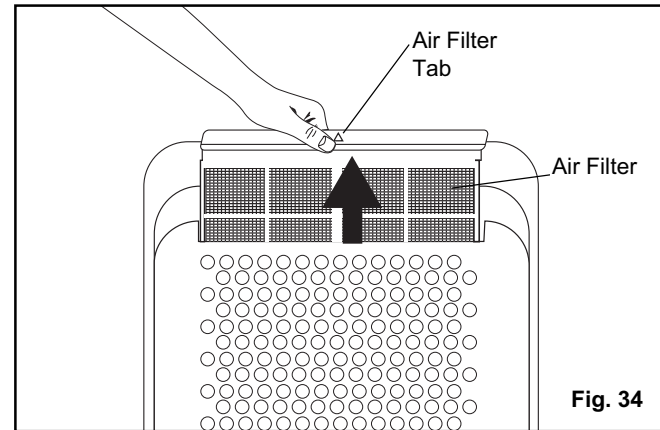

Fig. 34
- 1a) To remove the air filter (Fig. 34): Pull the air filter upward in the direction of the arrow.